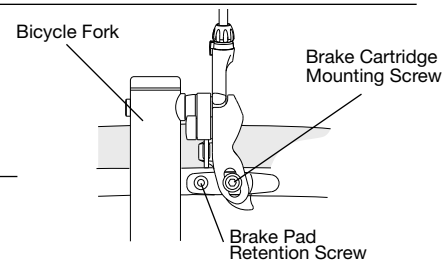

Fig. A-1
1. Brake pad cartridge holders will have a small screw that secures the brake pad. On both the left-side and right-side brake pads, this set screw will be oriented towards the rear of the bicycle (see Fig. A-1 and A-2). It may be necessary to swap the left-side and right-side brake pads to achieve proper orientation of the pad retention screws.